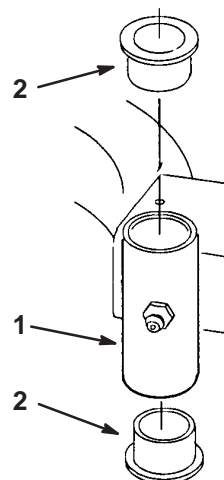

Figure 28
4. Insert a pin punch into the mounting tube and carefully drive out the bushings (Fig. 28). Clean the inside of the mounting tube.